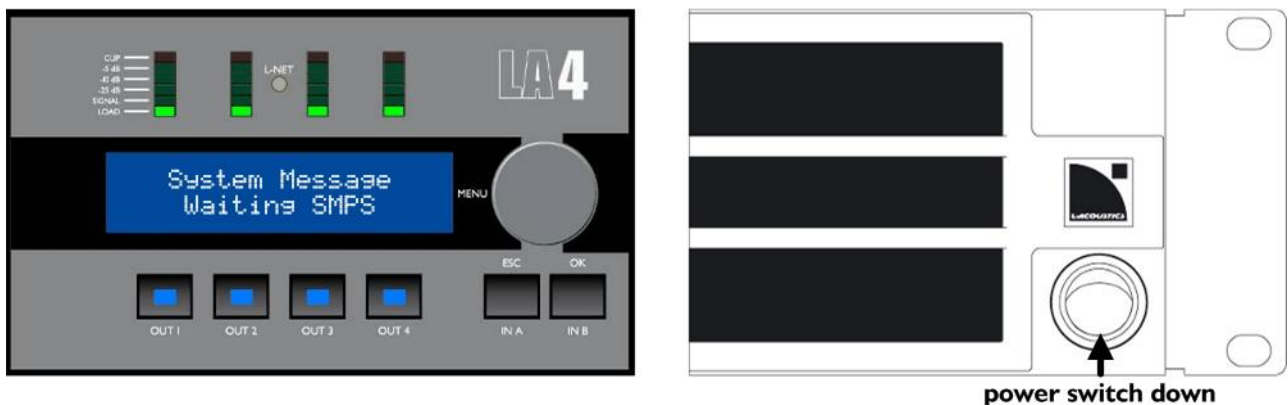

Figure 12: Shutdown sequence
- ▶ Press the power switch down to power the LA4 off (see Figure 12).